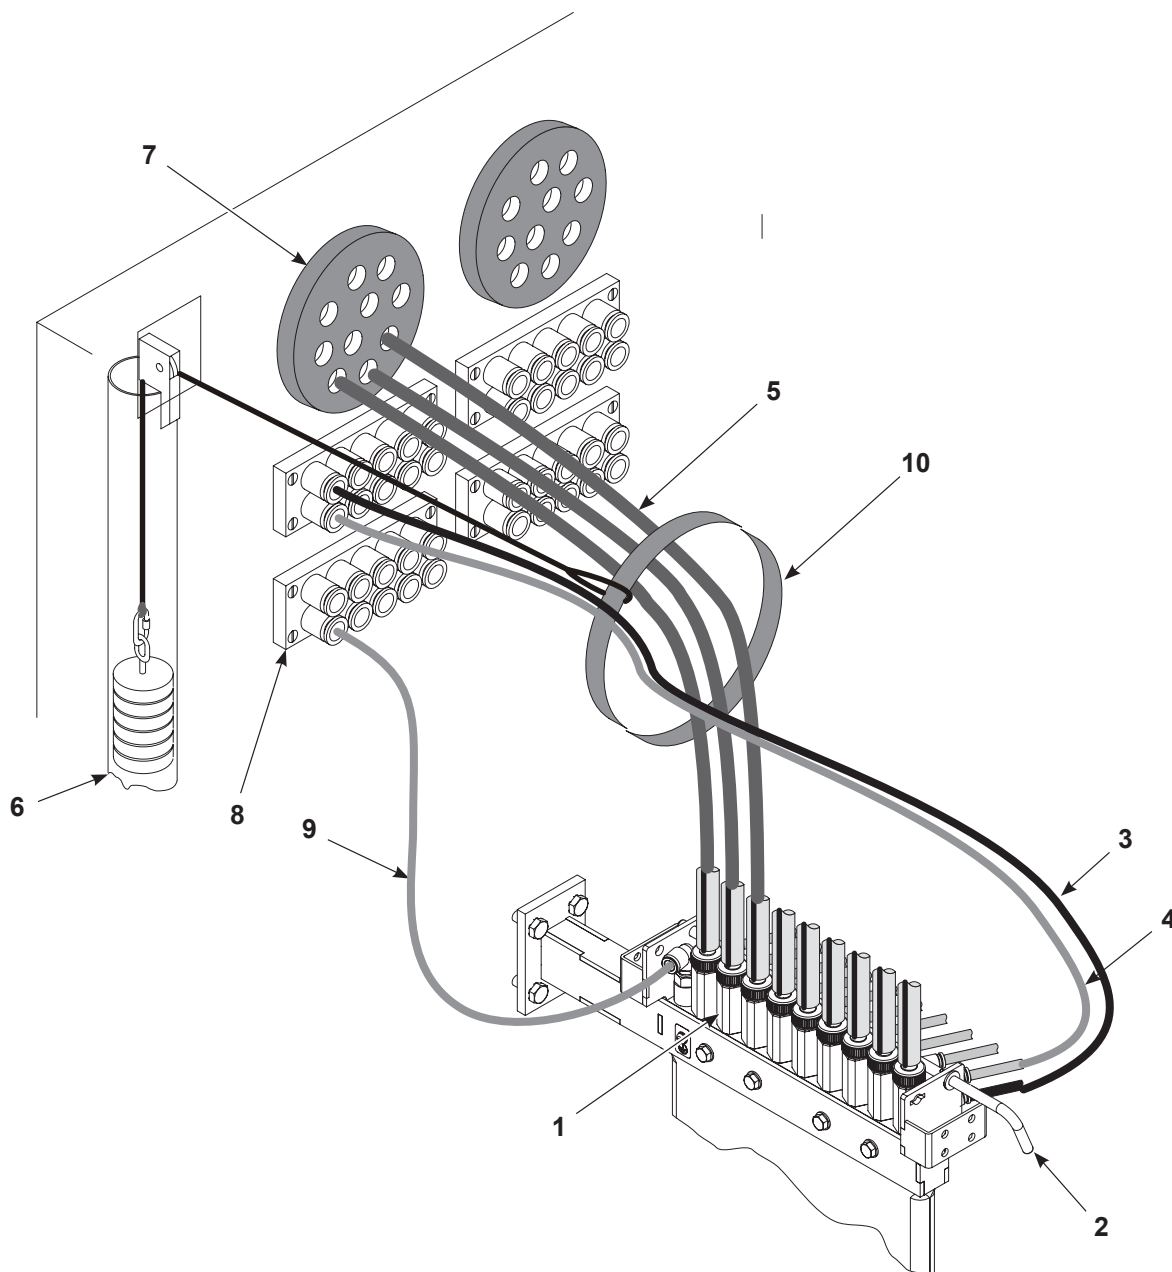

Figure 3-4 Pump, Powder Feed Hose, and Air Tubing connections to Lance Assembly
See Figure 3-3 and Figure 3-4. Typically, the pumps are installed at the factory. If not, install the powder pumps into the lance ports, with all the pump air fittings pointing in the same direction. Install the retaining rods into the brackets to lock the pumps in place. The pump connections are application specific; refer to your system drawings for the correct connections.
See Figure 3-3 and Figure 3-4. If the pumps are installed at the factory, the flow (black) and atomizing (blue) air tubing is also installed from the pumps to the air manifolds on the back wall of the feed center. If not, the pumps are numbered and the tubing must be connected from the pumps to the appropriate fittings in the air manifolds on the back wall of the feed center.
See Figure 3-3 and Figure 3-4. Label and route the powder feed hoses (5) from the spray guns through the multi-tube PVC grommets (7) on the back wall of the feed center and connect the hoses to the appropriate pump outlet fittings (1). Refer to your system drawings for the correct connections.
See Figure 3-4. Allow enough slack in the hoses (5) and air tubing (3, 4) to allow the lance assembly to travel through its full range of movement without stretching or kinking the hoses or tubing. Bundle the hoses and tubing with the provided Velcro straps (10) to prevent kinking or damage, then attach the strap to the counterweight assembly (6).
See Figure 3-4. If not done, connect 6-mm blue air tubing (9) from the fluidizing air regulator on the side wall of the feed center through the multi-tube connector and connect the tubing to the fitting on the lance, as shown.